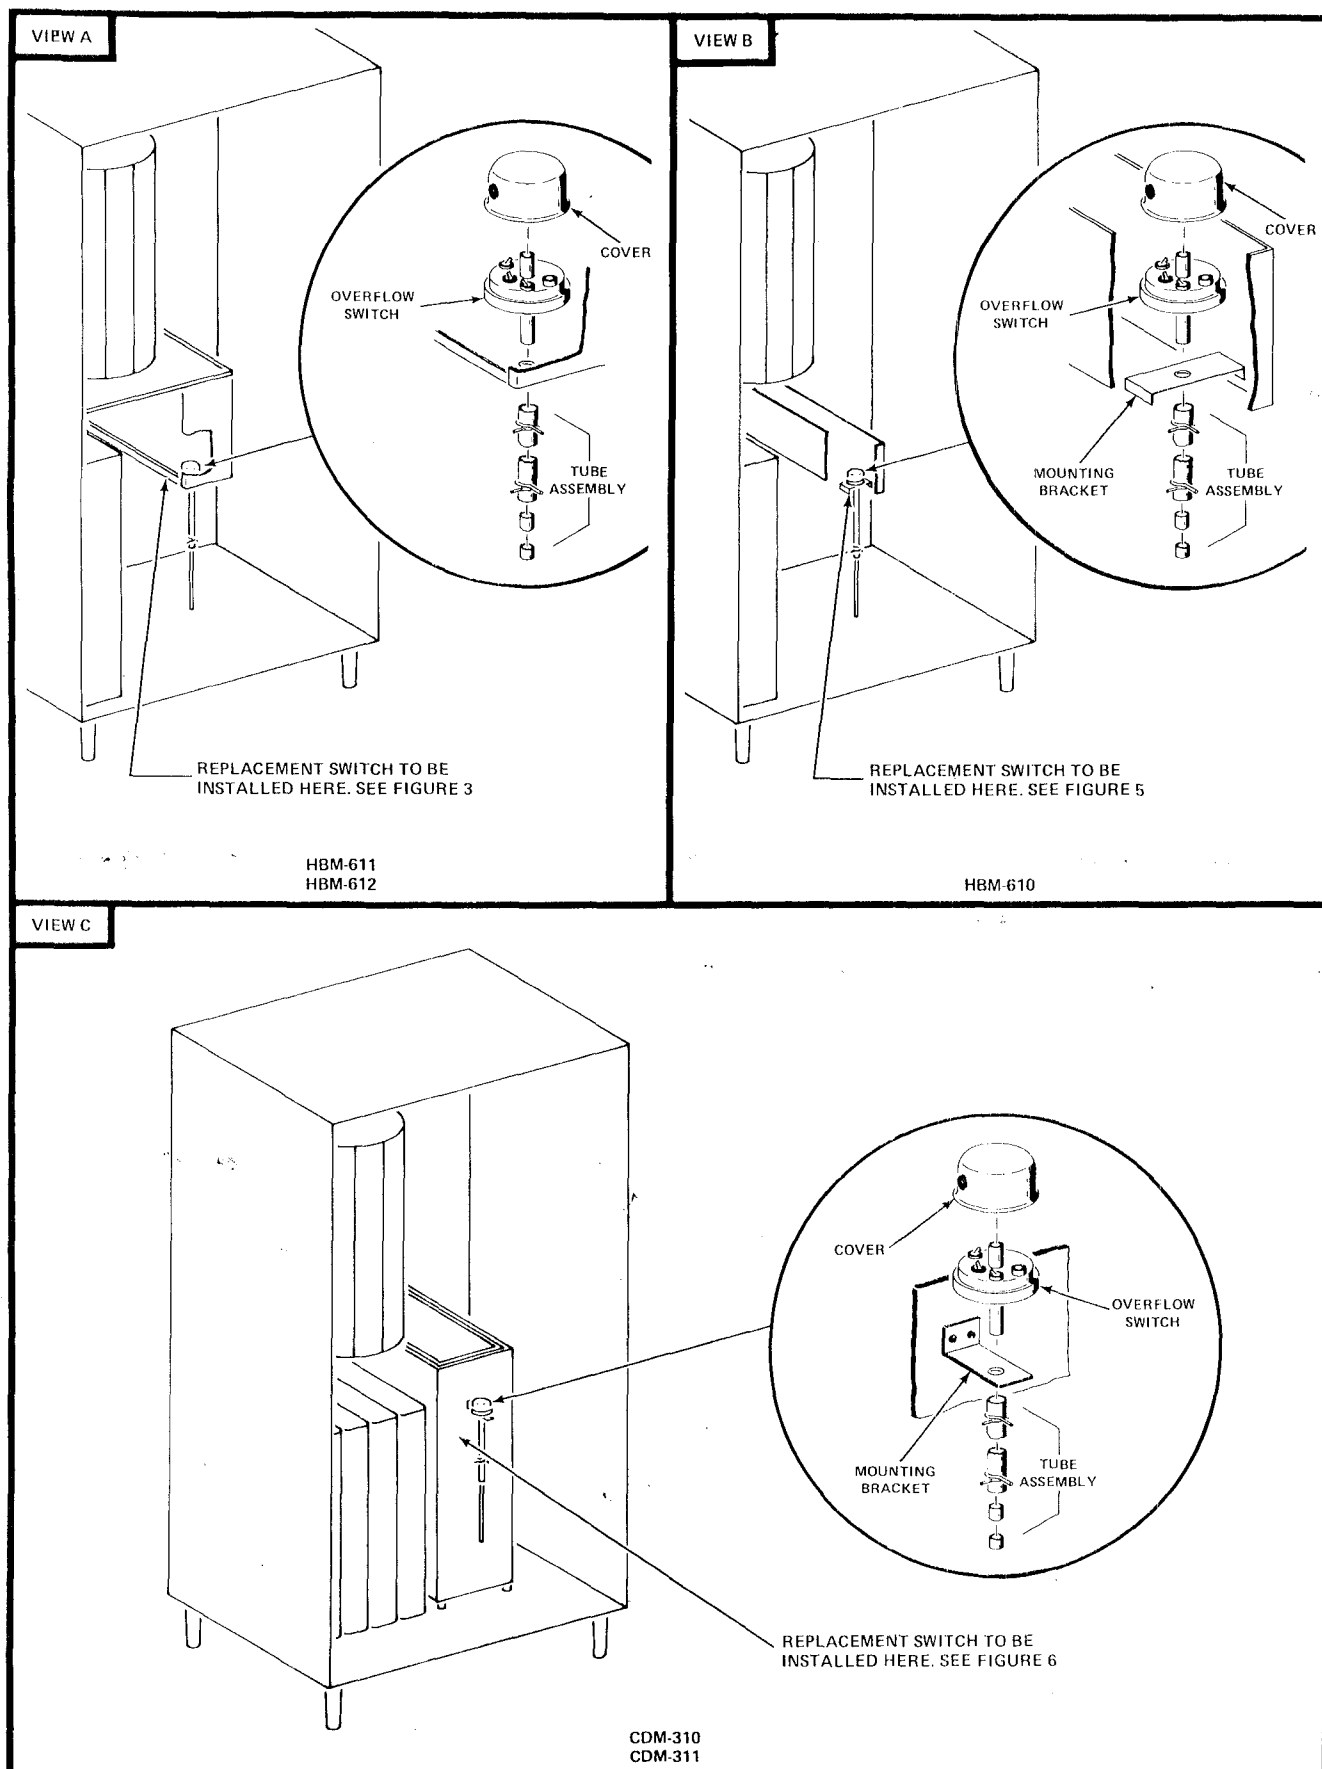

FIGURE 1
4. Remove the Overflow Switch Cover Assembly and disconnect the two electrical wiring harness leads from the Overflow Switch. See Figure 1 and 2.
7. In the Cold Drink Merchandiser, remove two Screws and the Overflow Switch Mounting Bracket. See View C, Figure 1.
1. Wipe the surface of any dust, oil or water, where the replacement Switch is to be installed. See Figure 1 and 3.
2. Peel about one inch of backing from the starting end of the Drill Template, Part Number 611-8130, included in the Kit, and press the starting end on the side of the Cup Delivery Horn Assembly. See Figure 1 and 3.